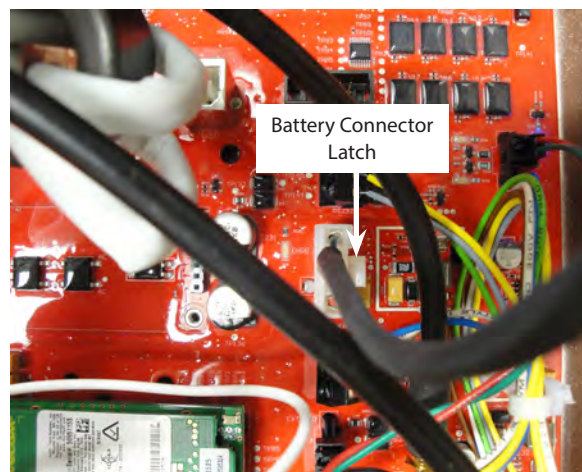

Figure 43: Battery connector
2. Squeeze the connector latch (Figure 43) of the battery connector on the circuit board and carefully pull on the connector to remove it from the circuit board pin contacts. Do NOT pull on the connector wires. If the connector is stuck, it can need to be gently rocked back and forth while pulling.